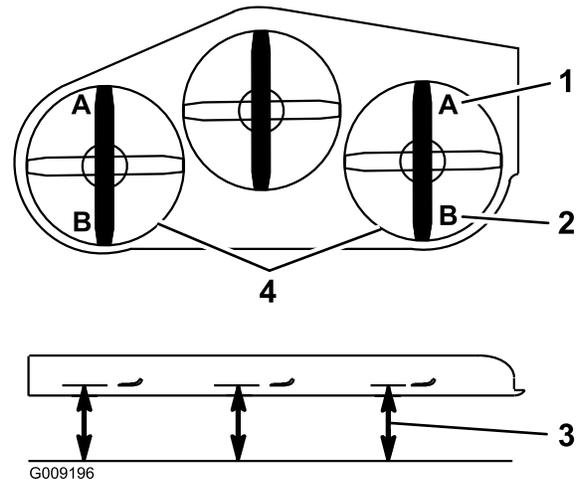

**Figure 90**
5. Push the deck-lift pedal all the way forward and the deck latches at the 14 cm (5-1/2 inches) transport position (Figure 90).